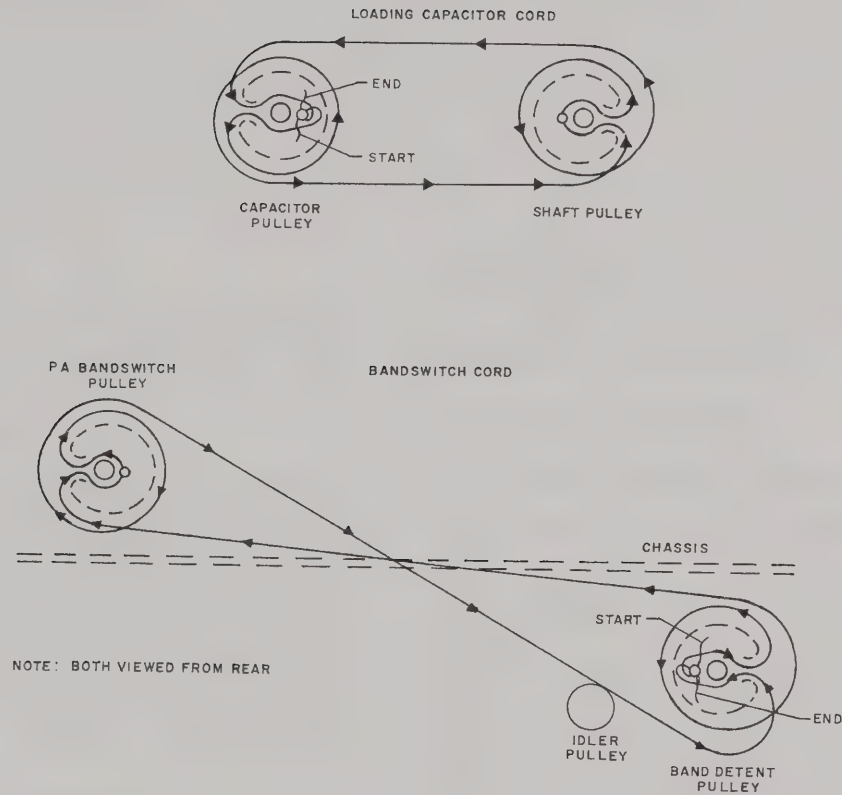

Figure 4-3. Dial Cord Stringing Diagram
4.7 Dial Cord Replacement. (Refer to figure 4-3.)
d. String the cord according to the appropriate part of figure 4-3. Make sure the cord turns do not overlap on the pulleys. Pull the cord tight, and tie to the tab. Make sure a short piece of spaghetti is slipped over the plastic covered cord so that it acts as extra insulation under the tab. This prevents rf currents from melting the plastic and shorting the wire core to ground. Mash the tab down to clamp the cord securely. Tighten the idler to bring the cord to tension.
d. String the cord according to the appropriate part of figure 4-3. Make sure the cord turns do not overlap on the pulleys. Pull the cord tight, and tie to the tab. Make sure a short piece of spaghetti is slipped over the plastic covered cord so that it acts as extra